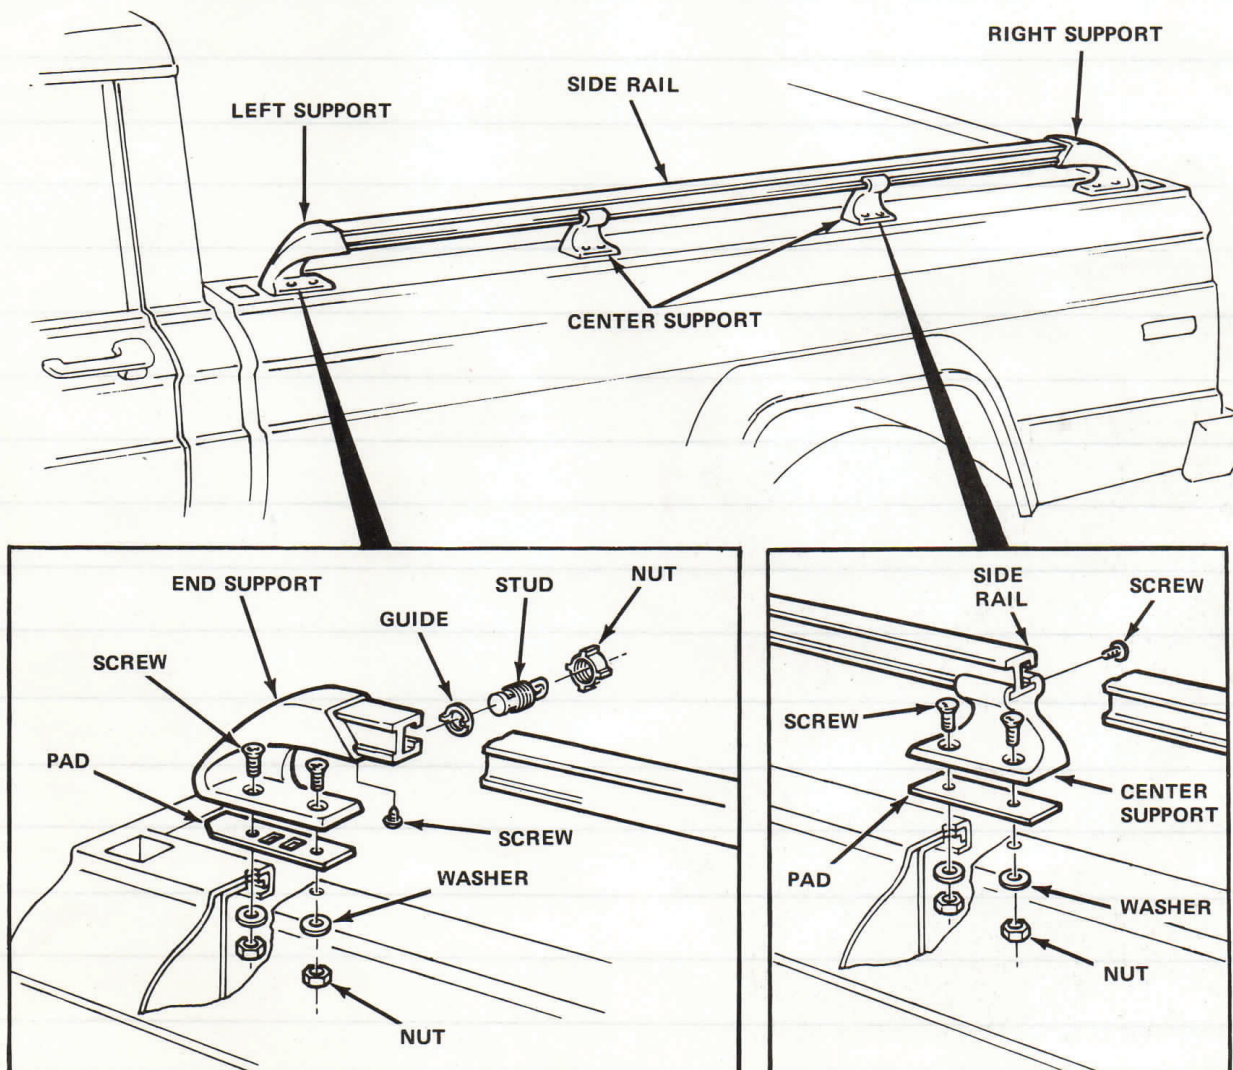

Fig. 18-4 Tiedown Rail Assembly
(a) With studs inserted into guides, slide assemblies into side rail channel. Tangs on guide face inward (fig. 18-4).
(2) Slide center supports onto side rail and position so that they are adjacent to screw holes and an equal distance from each end of rail. Secure supports with 8-32 x 3/8-inch screws (fig. 18-4).
(3) Insert each end of side rail into end support. Secure with 8-32 x 3/8-inch screws.
(4) Centrally locate each tie-down rail assembly on top of body side panels. Using supports as templates, mark locations for screw holes. Remove tiedown rail assemblies.
(5) Centerpunch and drill 9/32-inch holes in top of each body side panel.
(6) With pads in position, secure each tiedown rail assembly to top of body side panels with 1/4-inch screws, washers and nuts (fig. 18-4). Tighten nuts to 10 foot-pounds (14 N•m) torque.